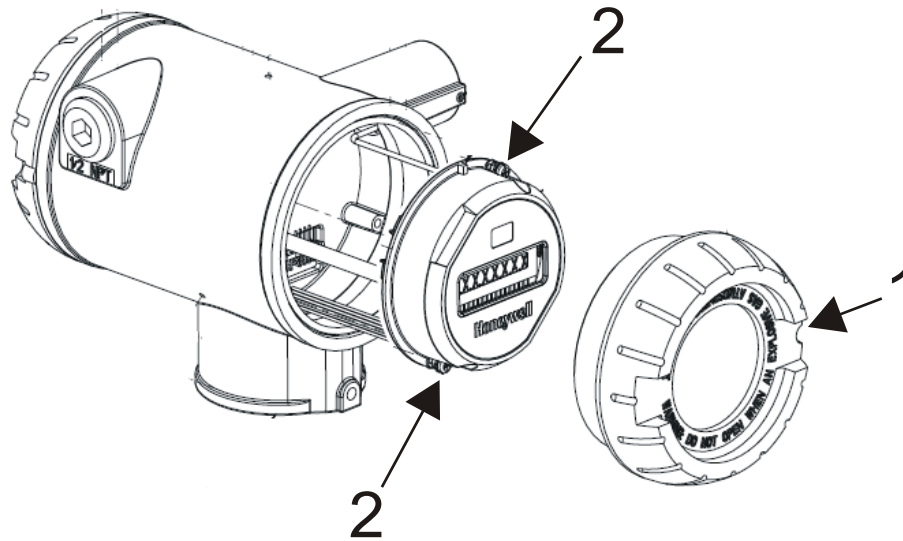

Figure 3 Display rotation
2	Loosen the M3 locking set screw on the display end-cap. See item 1 in Figure 3. Unscrew and remove the end cap.
3	Loosen the two captive screws on the display/sensor module. See items 2 in Figure 3.